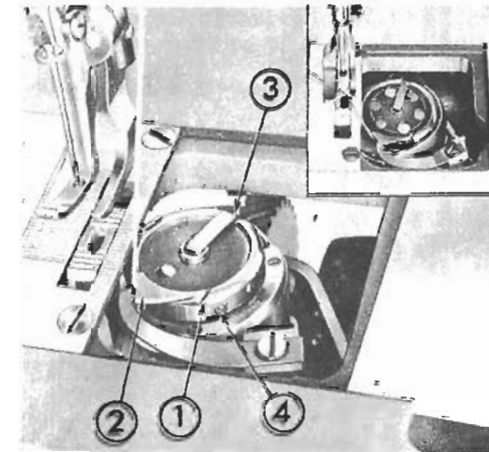

Fig. 9
### 9. How to insert the bobbin into the bobbin case and passing the bobbin thread (Fig. 9)
The tension of the bobbin thread is adjusted by turning the screw (Fig. 9 ④) on the outside of the bobbin case. If this screw is turned to right, the tension gets stronger and if turned to left, it gets weaker.